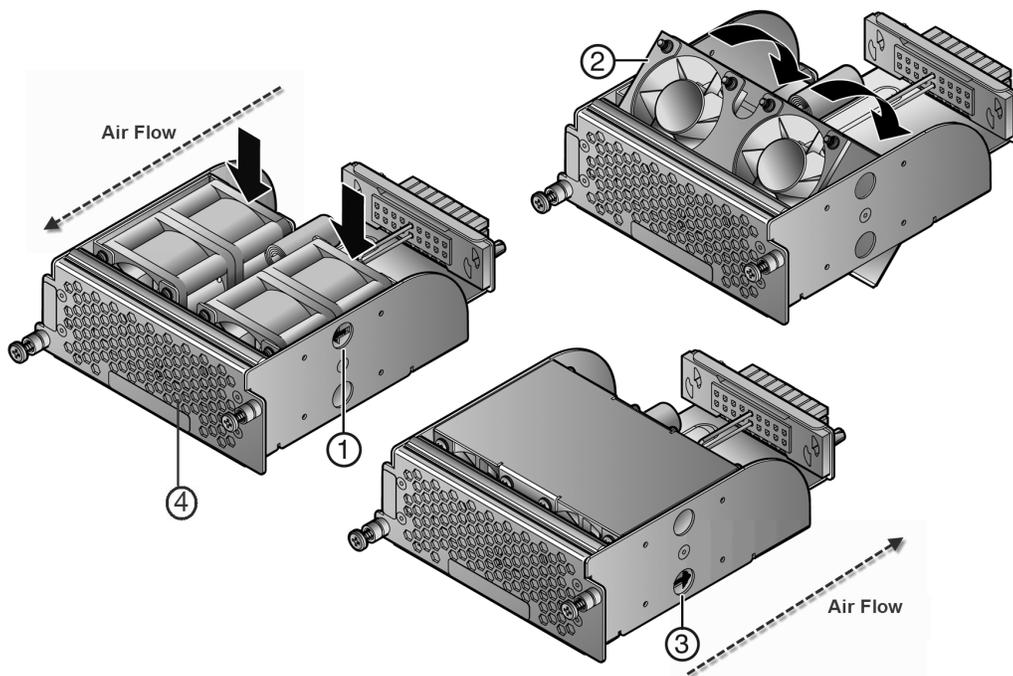

Figure 4: Reversing the Fan Module Air Flow
The fan module has a single reversible dual fan unit. When the fan unit is properly seated, the air flow indicator arrow is completely visible as shown in callout 1, Figure 4: Reversing the Fan Module Air Flow on page 17. The air flow indicator arrow points in the direction the fan unit flows air through the fan module.
When the fan unit is reversed, a metal plate covers the fan unit (as shown in Figure 4: Reversing the Fan Module Air Flow on page 17). To reverse the fan module air flow:
- 2 Apply pressure to the edges of the fan units closer to the fan module connector to rotate the fan unit (thick black arrows in Figure 4: Reversing the Fan Module Air Flow on page 17).